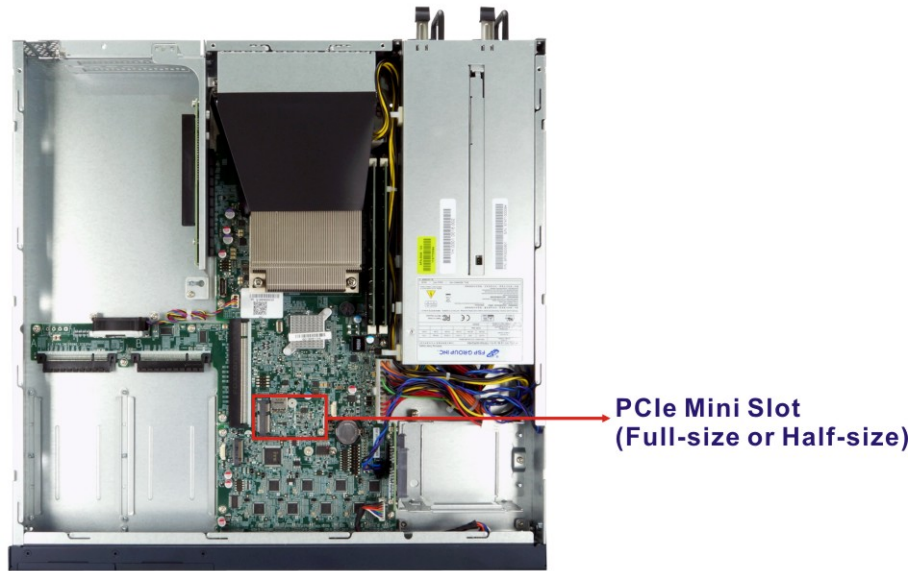

Figure 3-18: PCIe Mini Slot Location
- Step 2:** Locate the PCIe Mini slot on the motherboard (Figure 3-18).